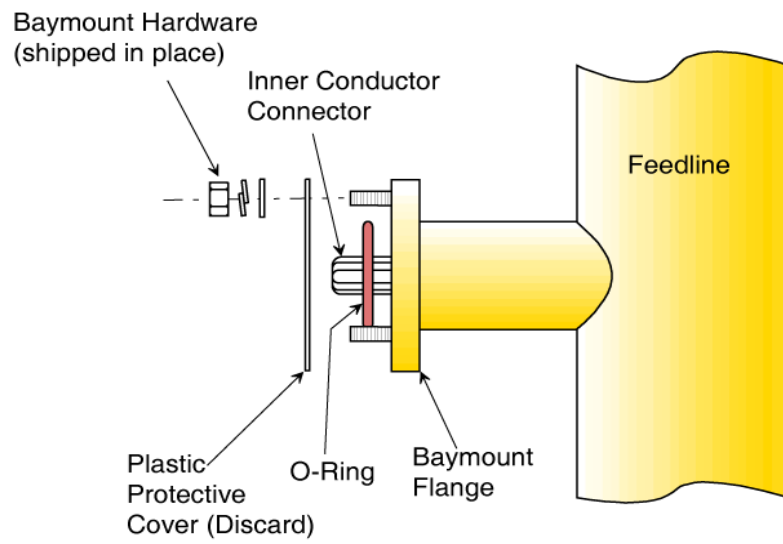

Figure 1. Baymount Detail
- c. Remove the plastic bag and protective cover (see Figure 1) from the baymount flange on the feedline.